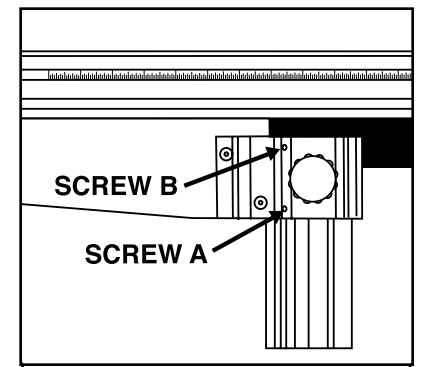

Figure 27
1. Move top stop to end of machine (Figure 27).
5. To eliminate gap, loosen mat guide knob and turn screw using allen wrench provided. Use Screw A if gap is near the end of the machine (Figure 27). Use Screw B if gap is near the mat guide knob (Figure 28).